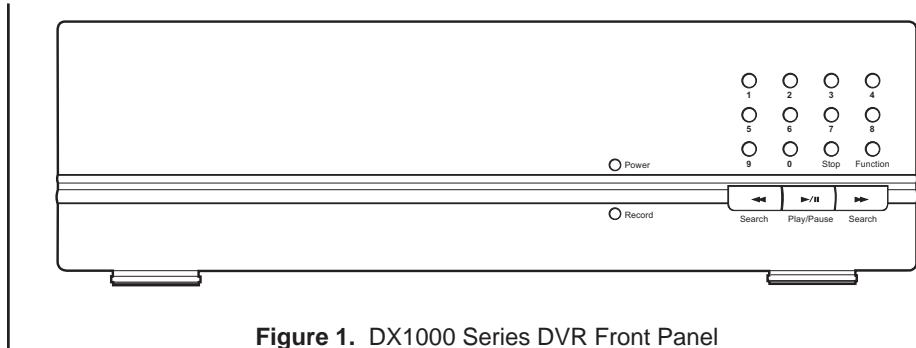

Figure 1. DX1000 Series DVR Front Panel
- 1 DX1000 Series DVR (refer to Figure 1)